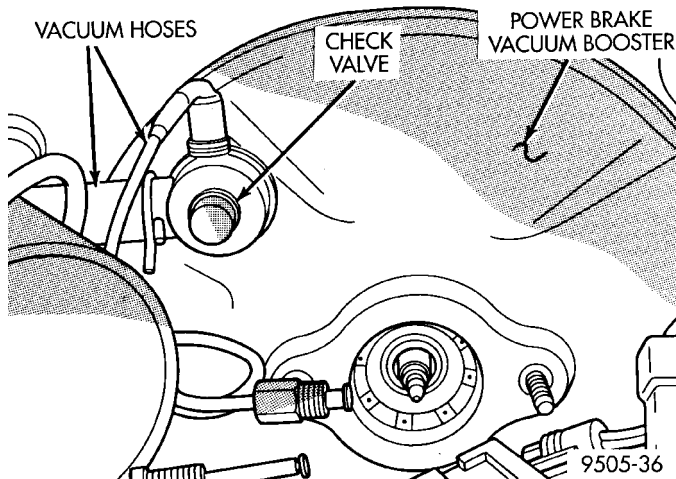

Fig. 117 Power Brake Vacuum Booster Check Valve
(8) Disconnect vacuum hoses from check valve on power brake vacuum booster (Fig. 117). **Do not remove check valve from power brake vacuum booster.**
(3) Using lubriplate, or equivalent, coat the surface of the brake pedal pin where it contacts the brake vacuum booster input rod.
(4) Connect power brake vacuum booster input rod to brake pedal pin and install a NEW retaining clip. **Use only a new retainer clip DO NOT USE the old clip.**
(5) Connect all previously removed vacuum hoses onto power brake vacuum booster check valve (Fig. 117).
(6) If vehicle is equipped with ABS, install HCU. Refer to Antilock Brake System Hydraulic Control Unit in the Removal And Installation Section of the Antilock Brake System Section of this service manual for the required procedure.